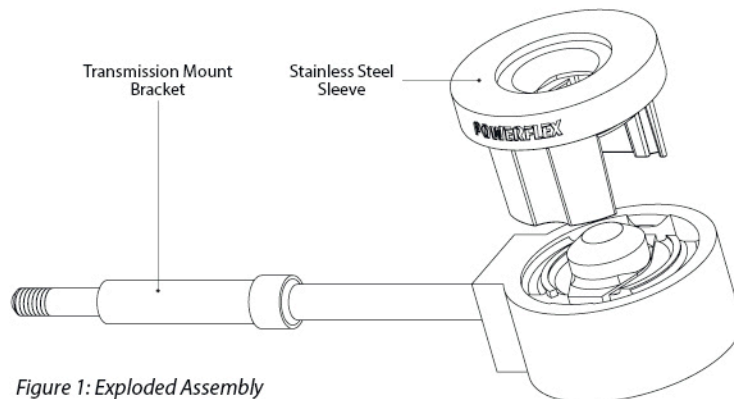

Figure 1: Exploded Assembly
3. Fit polyurethane insert into transmission mount bracket bush, from end with spigot on. As shown in *Figure 1*.